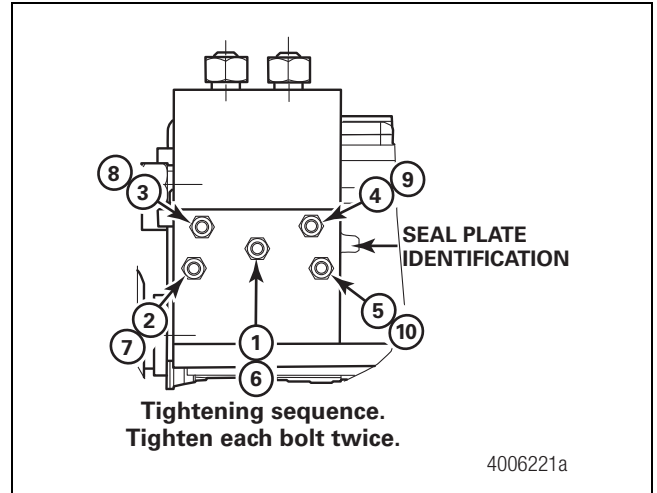

Figure 4.30
1. Place a screw into the center mounting hole of the relay valve. Use a hex-head socket tool for positioning. Place the new relay valve seal onto the relay valve using the screw to align the seal. The orientation should match Figure 4.30. Position the relay valve against the HCU. Thread the screw into the HCU.
3. Use a torque wrench to tighten all five screws to 71 in-lb (8 N•m) following the numbered sequence illustrated in Figure 4.30. **1**